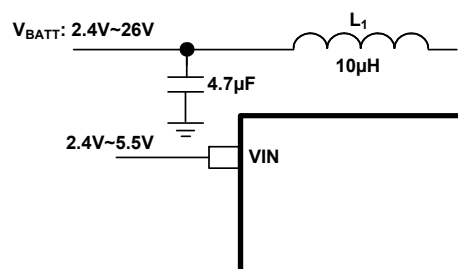

FIGURE 4. 2-CELL BATTERY SUPPLY CONFIGURATION
1. It is important that VIN stay below the absolute rating of 5.5V (see Figure 4).